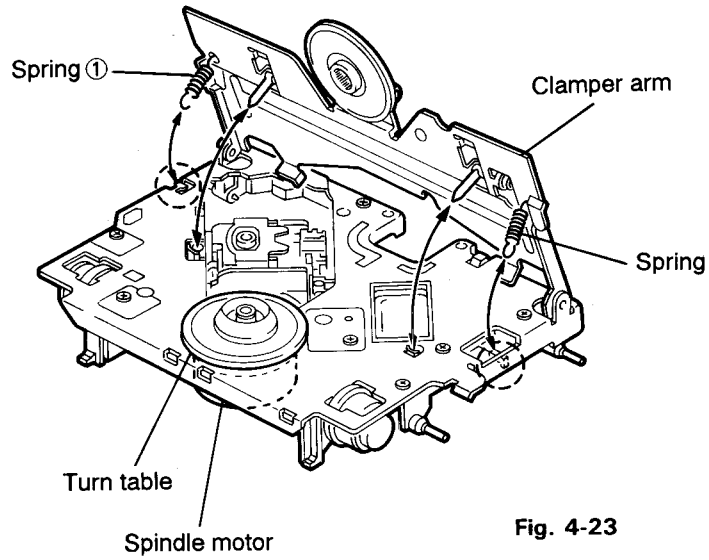

Fig. 4-23
1. After turning back the CD mechanism to initial position, remove the two springs ① and ② on both the right and left sides of the clamber arm (See Figs. 4-23 and 4-24).